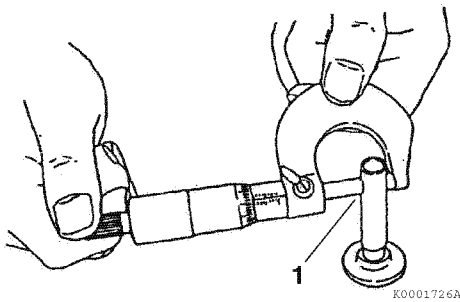

Figure 6-73
2. Measure the outside diameter of the tappet stem (**Figure 6-73, (1)**). See *Tappet* on page 6-9 for the service limit.